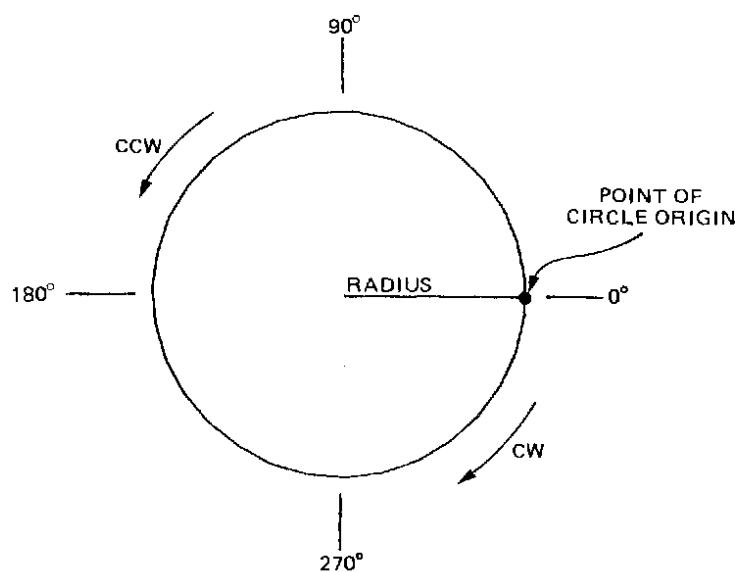

Figure 6-1. Circle Plot
Circles and arcs are plotted in either a clockwise (CW) direction or, a counterclockwise (CCW) direction, with the current pen position being the point of circle origin as shown in Figure 6-1.